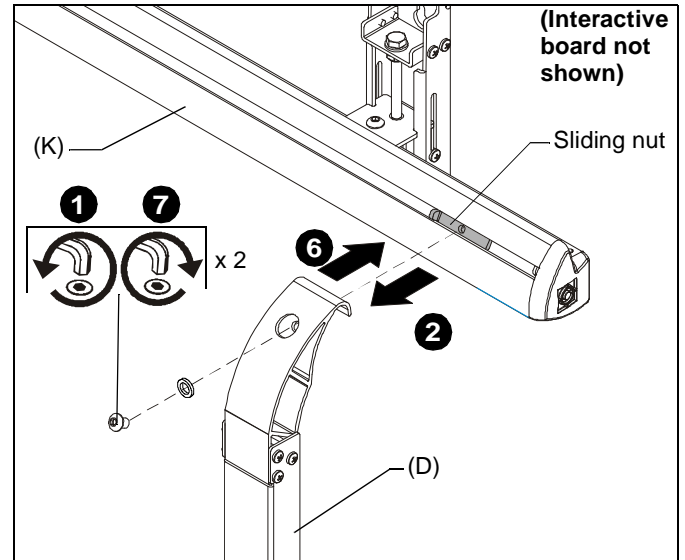

Figure 10
1. Loosen one button head cap screw with spacer at top of each upright assembly (D). (See Figure 10)
2. Unhook whiteboard from wall assembly (K). (See Figure 10)
6. Hook whiteboard with attached uprights onto the wall assembly (K). (See Figure 10)
7. Tighten button head cap screw with spacer (loosened in Step 1) at top of each upright assembly to fasten upright assemblies (D) into place. (See Figure 10)